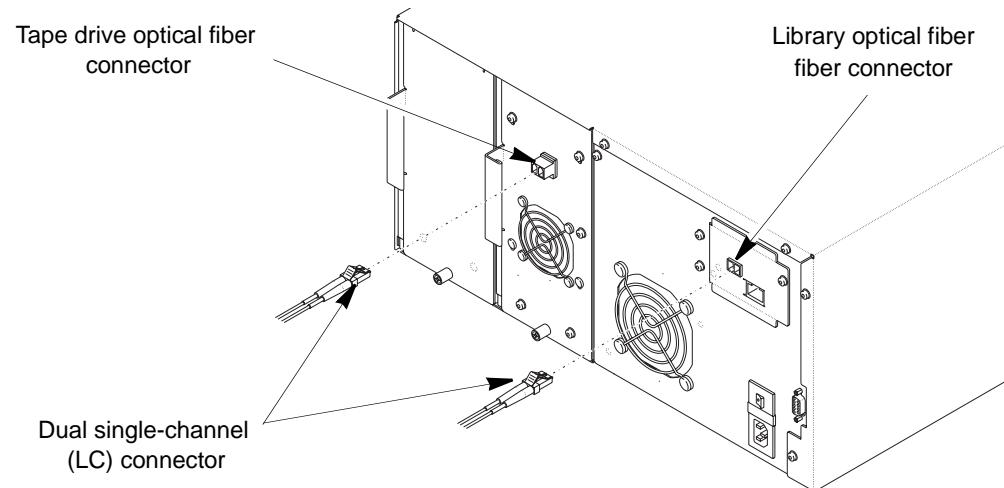

Figure 2-13 Connecting optical cables to the 221L-FC library and tape drive
2. Attach an optical cable from the hub or switch to the library's optical fiber connector (see Figure 2-13). The connectors are keyed to ensure that the cable is attached in the correct orientation.
3. Attach an optical cable from the hub or switch to the optical fiber connector on each tape drive (see Figure 2-13). The connector and the cable are keyed to ensure that the cable is attached in the correct orientation.